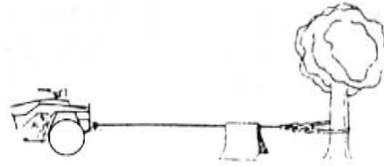

Figure 5
10. It is a good idea to lay a heavy blanket or jacket over the wire rope near the hook end when pulling heavy loads (Figure 5). If a wire rope failure should occur, the cloth will act as a damper and help prevent the rope from whipping